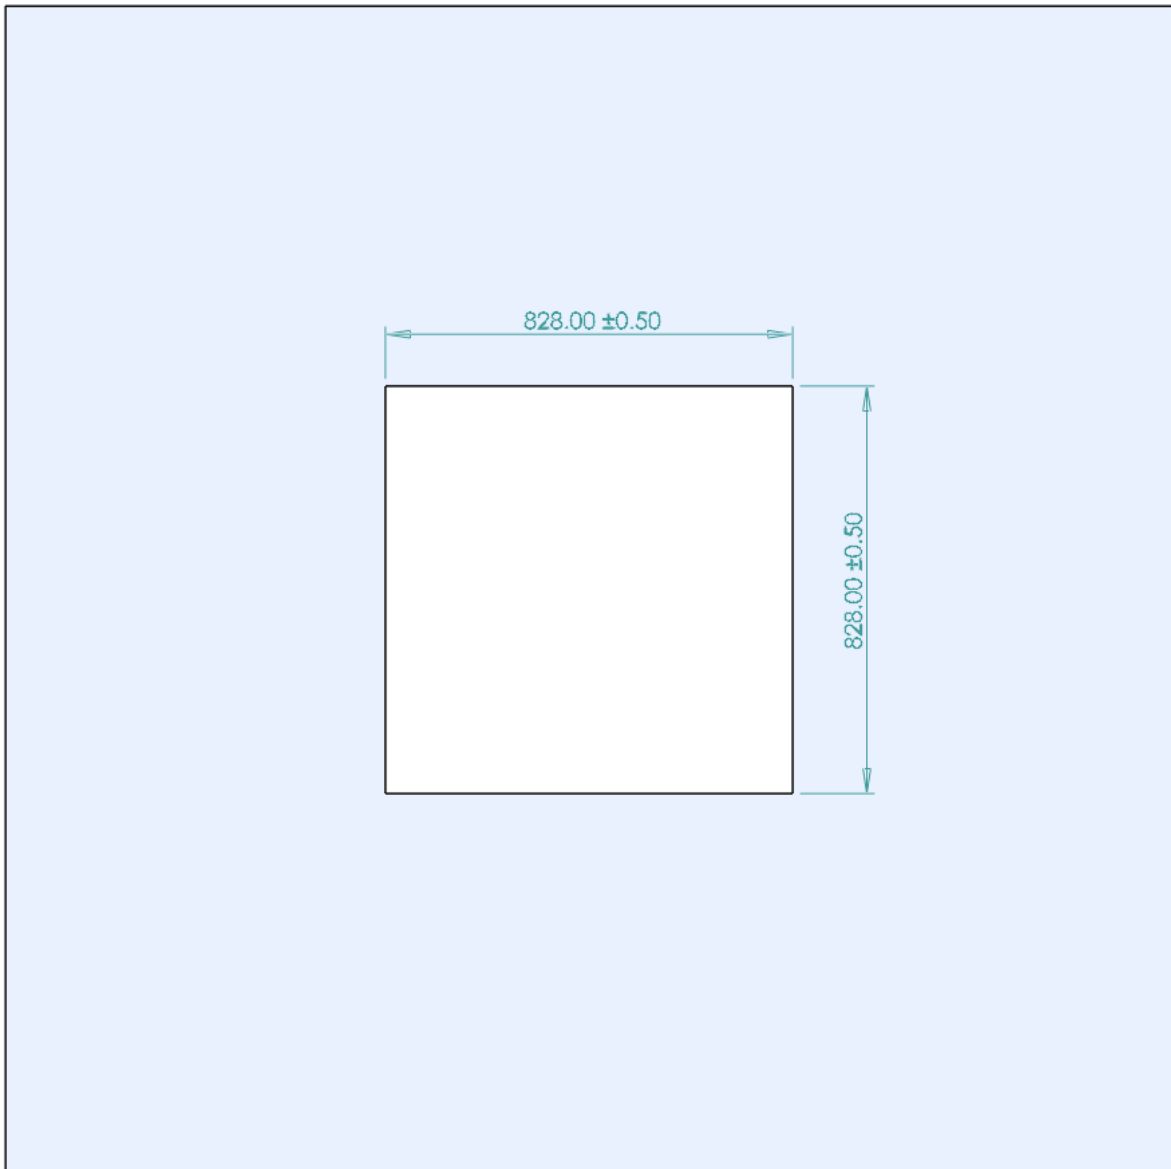

Figure 8 – Dimensions of roof opening.
1. Create roof opening of minimum 828mm x 828mm (*on the horizontal* - see figure 8).